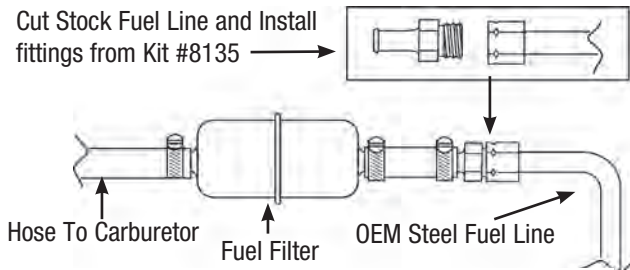

Fig. 3 - Fuel Line Kit #8135 Installed on Stock Steel Line
2. **The stock steel fuel line must be modified** to accommodate a rubber fuel hose as the stock steel line will not connect directly to the Performer Series Carburetor. The use of the Edelbrock Universal Fuel Line Kit #8135 is highly recommended. #8135 contains a fuel filter, rubber fuel hose, and fittings to adapt to 5/16” or 3/8” stock steel fuel lines (**See Fig. 3**). **NOTE: #1405 and #1406 carburetors are supplied with a fuel filter. If using #8135 on these carburetors, the filter included in #8135 can be saved for later use.**